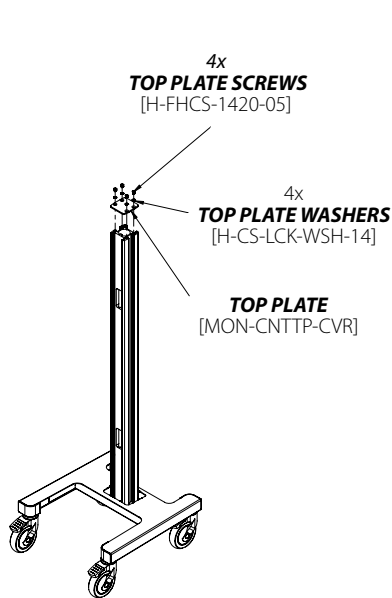

Figure 1
1. Unscrew the 4x **TOP PLATE SCREWS** and the 4x **TOP PLATE WASHERS** to place the **TOP PLATE** aside as shown in **Figure 1**.